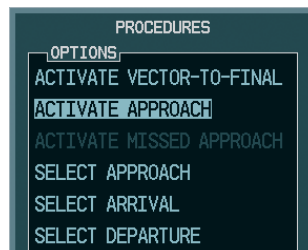

Figure 5-140 Manually Activate Approach
- Turn the large **FMS** Knob to highlight 'ACTIVATE APPROACH' as shown in Figure 5-140.